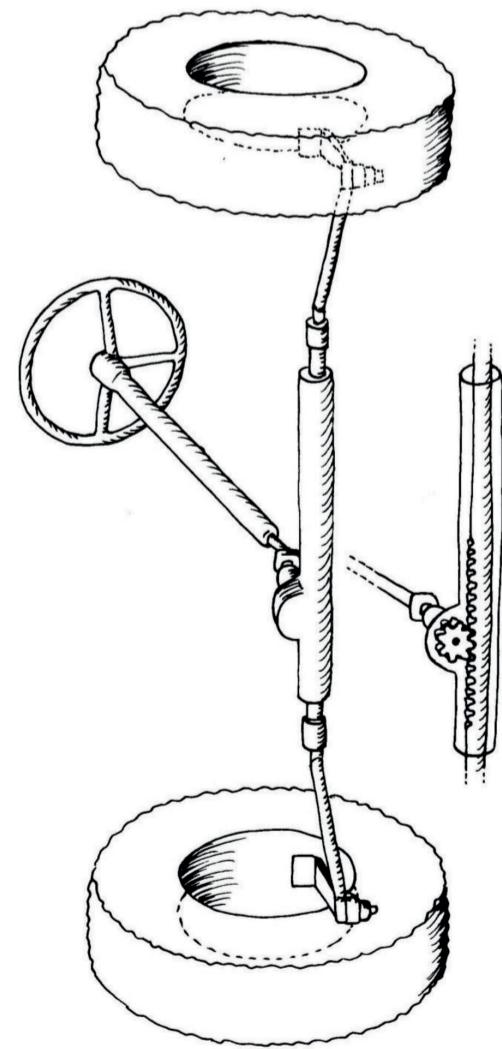

Figure 24: A rack-and-pinion car-steering system
Some cars have steering systems that work with rack-and-pinion gears. In Figure 24, you can see that the steering wheel is connected to a pinion gear. When you turn the steering wheel, the pinion gear also rotates and moves the rack gear from side to side, a bit like an electric security gate.
6. (a) How many teeth does the pinion gear of the steering system in Figure 24 have?
In Figure 24, you can see that the steering wheel is connected to a pinion gear. When you turn the steering wheel, the pinion gear also rotates and moves the rack gear from side to side, a bit like an electric security gate.